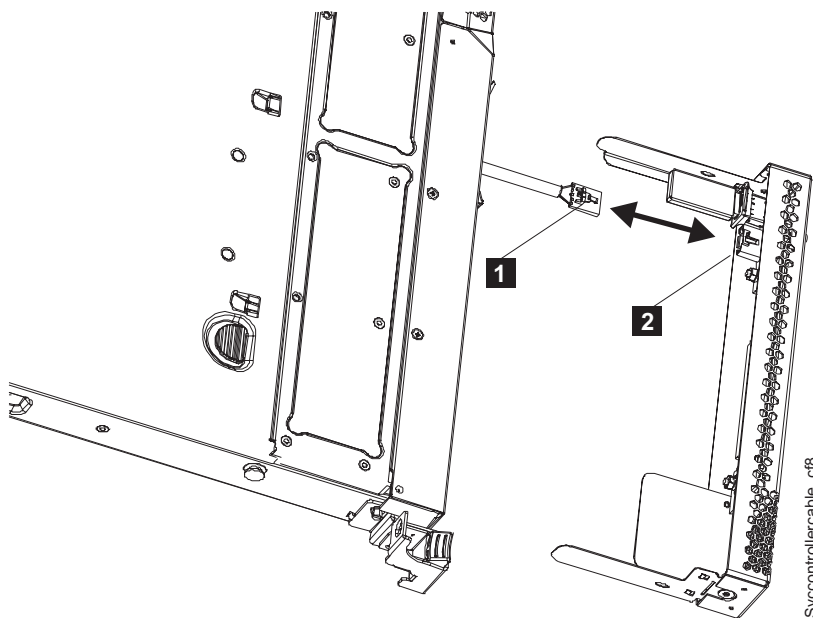

Figure 79. Removing and replacing the USB cable in the SAN Volume Controller 2145-CF8 service controller
- a. Disconnect the USB cable (**1** in Figure 79) from the service controller (**2**).
- d. Install the other end of the USB cable in the USB connector ( **2** in Figure 79 on page 79) on the rear of the service controller.